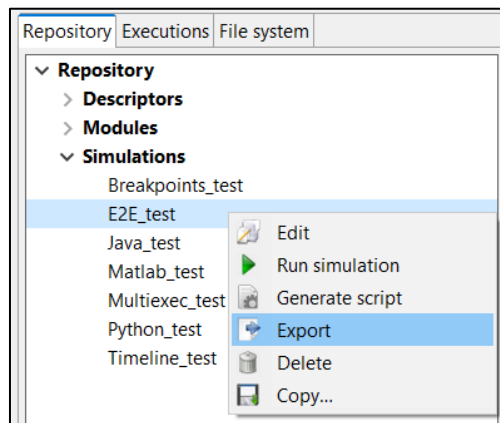

Figure 4-134: Export from the repository menu
1. From the **Repository** menu. In this case, we need to navigate from the “Repository” menu down to the simulation that the user wishes to export. Next, right-clicking over it; the “Export” option appears for selection. This is illustrated in Figure 4-134 below.